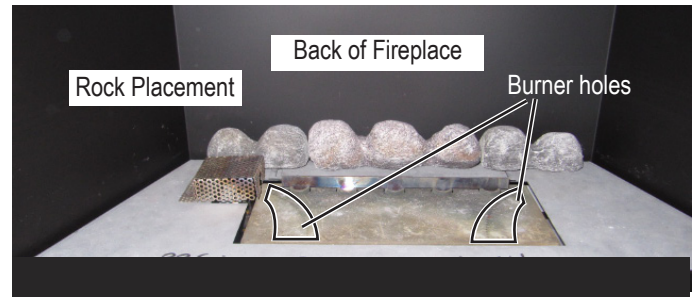

Figure 29b. Placement of Rear faux ceramic rock (flat surfaces of rock on bottom pan of the fireplace). Note size and location of rocks.
2. Install faux ceramic 3 in 1 and 2 in 1 Rock as shown in **Figure 29b.**